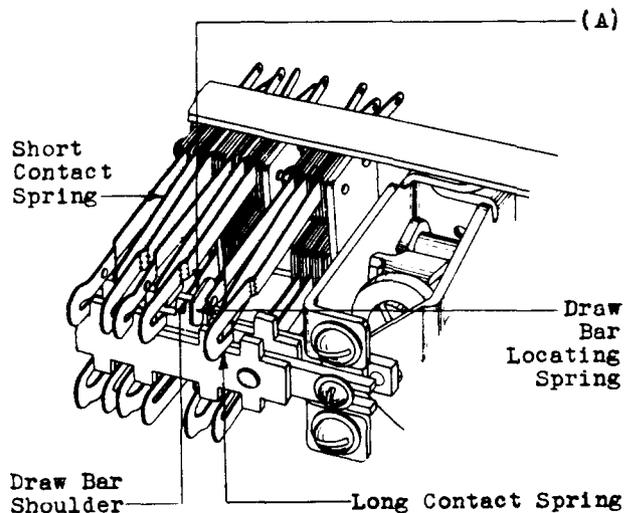

Fig. 5
2.11 Draw Bar Locating Spring Tension - Fig. 5 (A) - The tension of each arm of the draw bar locating springs against the draw bar shoulders, when the switch is in the unoperated position shall be